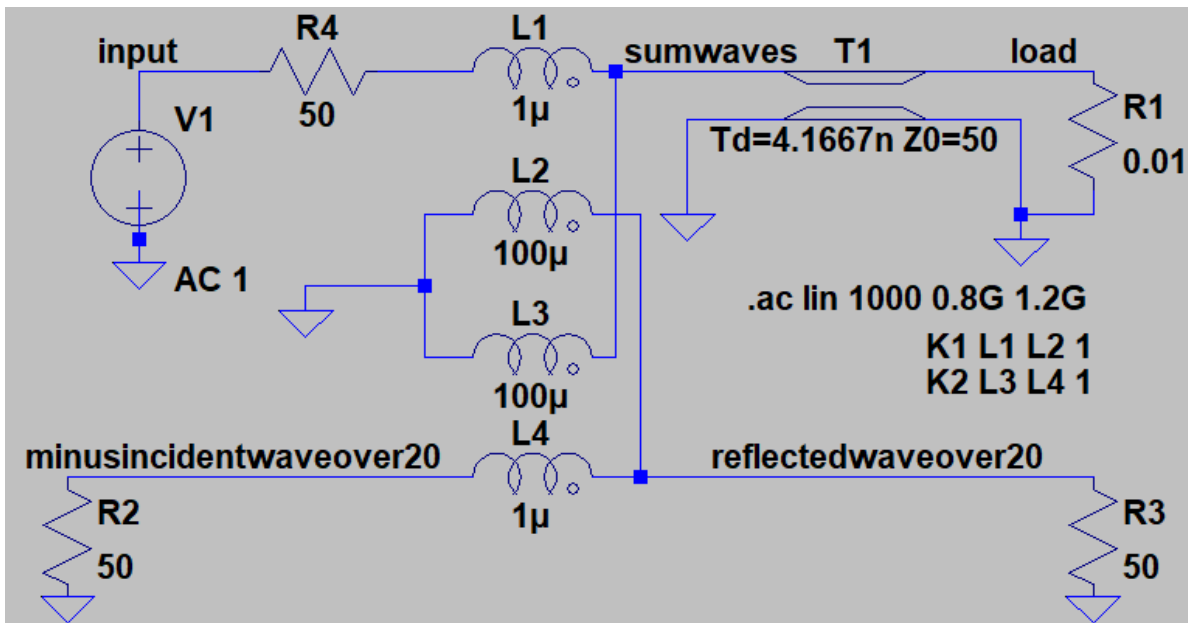

Figure 3: Simulated one-port vector network analyzer with directional coupler.
- a. Figure 3 (below) is a starting point for simulating a VNA. The schematic uses ideal mutual inductance (the K statements) to represent the behavior of a directional coupler, a circuit element that separates forward and reverse waves. (We'll talk about these more in a few weeks.) The node labels indicate the wave voltages that will be observed on that node, so the reflectedwaveover20 node will display the reflected wave voltage scaled by a factor of 20. Build and simulate Figure 3.
- b. Modify figure 3 to express each of the situations in theory question 1. Make sure simulations and analysis match.
- ii. Alternatively, you can convert an LtSpice AC simulation output file to a Touchstone s1p file, which can be read by Matlab. Be sure to use the in the real, imaginary output format for your AC simulation file, not the magnitude, phase format. Then (1) save the AC simulation output with a filename that ends in “.s1p”, (2) replace the first line with “# Hz S RI R 50”, and (3) replace all commas with spaces. Note that S11 and Γ are synonyms (for this lab).